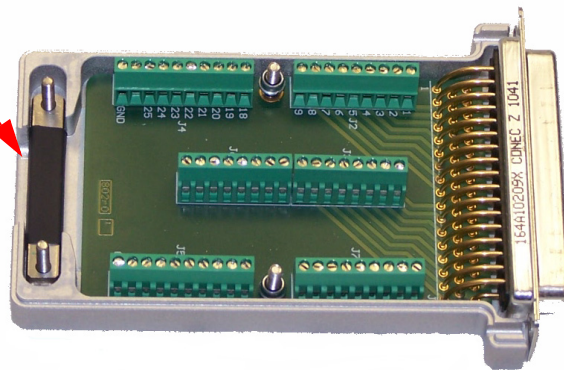

Figure 7 Using the Strain Relief Clamp
- 3 To use the strain relief, loosen the two strain relief screws and lift up on the strain relief bar. Refer to Figure 7.